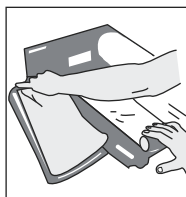

Figure 2
6. Adjust dial to proper setting. Holding package in left hand, bring the sealing arm down firmly onto the film and pad until the LED indicator turns off. Gently pull package away in a tearing motion until package is completely separated from pad. Release the arm and turn the package counter-clockwise 90°. Repeat to seal the remaining edge of film. (See Figure 2)